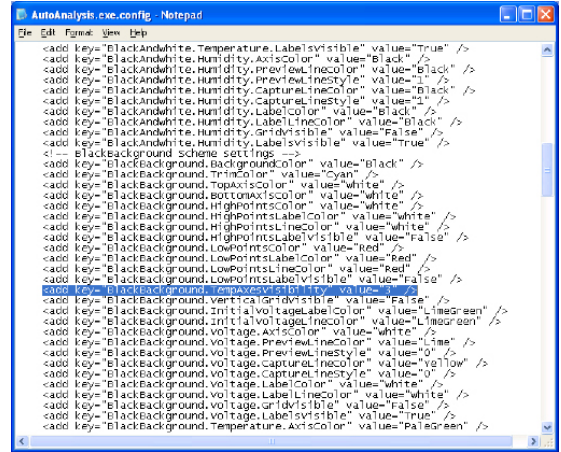

Figure 63: Modify Temperature Axis Scale for each Scheme
1. Open the configuration file (AutoAnalysis.exe.config) See Figure 63